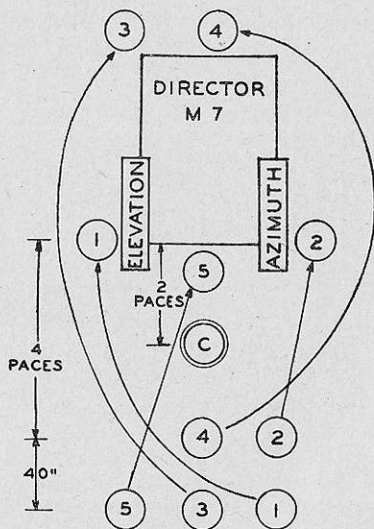

FIGURE 12.—DETAILS, POSTS from squad formation.
b. The squad is formed, at the direction of the corporal, in two ranks at close interval and 40-inch distance. At the command FALL IN, the members of the squad move at the double to their proper positions and fall in at attention. At the command DETAILS, POSTS they move at the double to their assigned places at the director. (See fig. 12.)